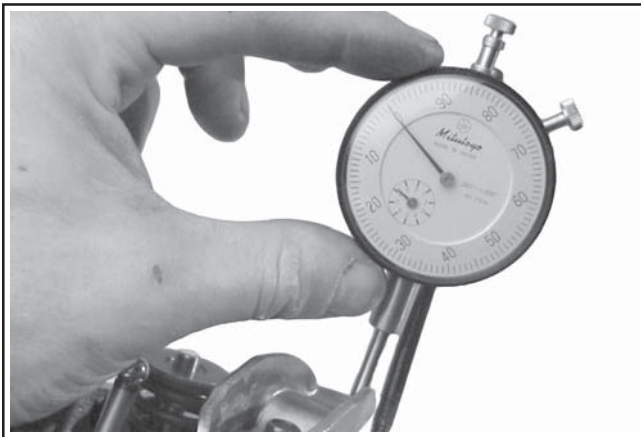

Figure 11-28. Align "0" with Needle.
- Rotate the face of the dial indicator to align the "0" with the needle. **Do not disturb the gauge position.** See Figure 11-28.